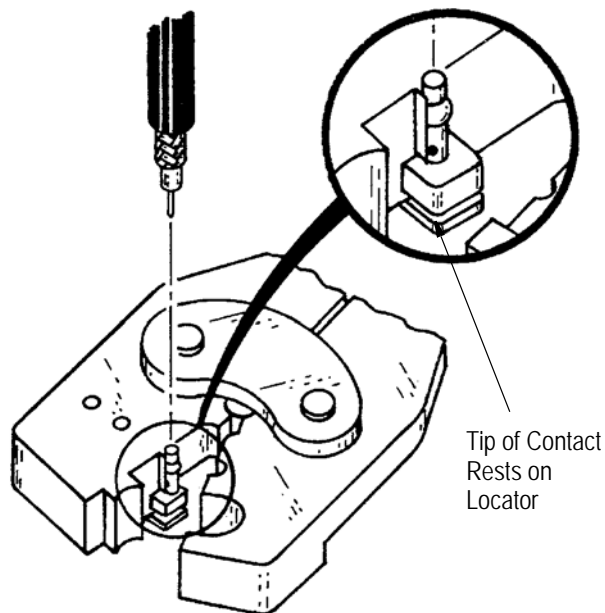

Figure 3
Refer to Figure 3 and proceed as follows:
3. Insert the center contact into the locator, as shown in Figure 3.